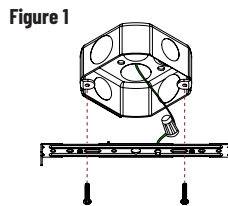

Figure 1
1. Connect ground on the bracket and secure the bracket with screws provided. (Figure 1)
3. Attach the bracket to the luminaire and insert the plugs to secure. (Figure 1)